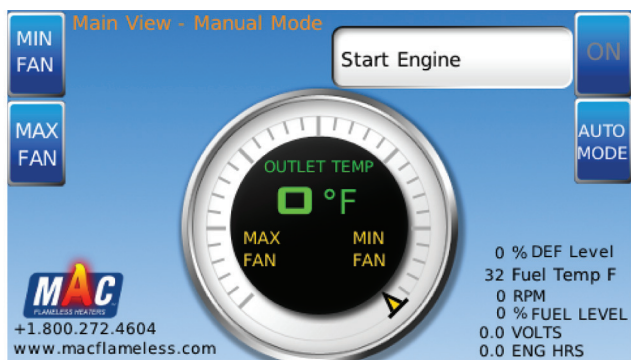

Figure 3-2. Start Engine
3. When screen displays "Start Engine" (**Figure 3-2**), turn ignition key to START.